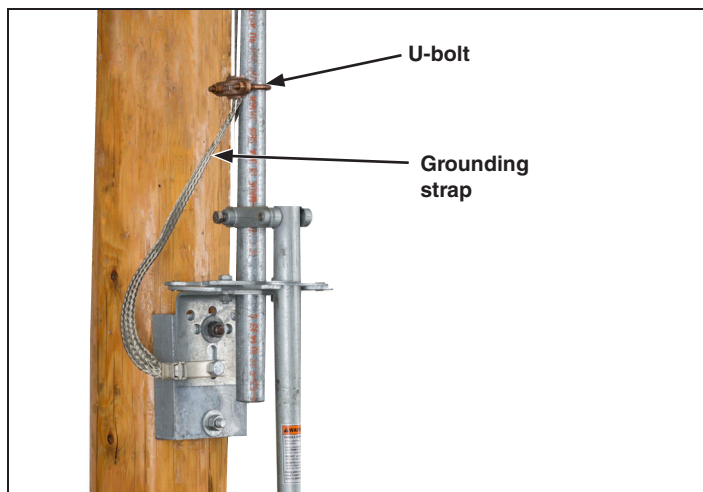

Figure 11. Attach the grounding strap.
STEP 15. Fasten the free end of the grounding strap to the lowest pipe section a few inches above the operating handle assembly (or key interlock) with the U-bolt connector provided for this purpose. See Figure 11.